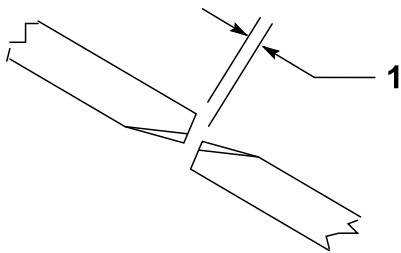

Figure 27
To ensure proper operation of the mower deck, there must be a 10 to 16 mm (0.38 to 0.62 inch) clearance between the tips of the side and center mower-deck blades (Figure 27).
2. Rotate a center and adjoining side blade so the blade tips are aligned. Measure the distance between the blade tips (Figure 27).